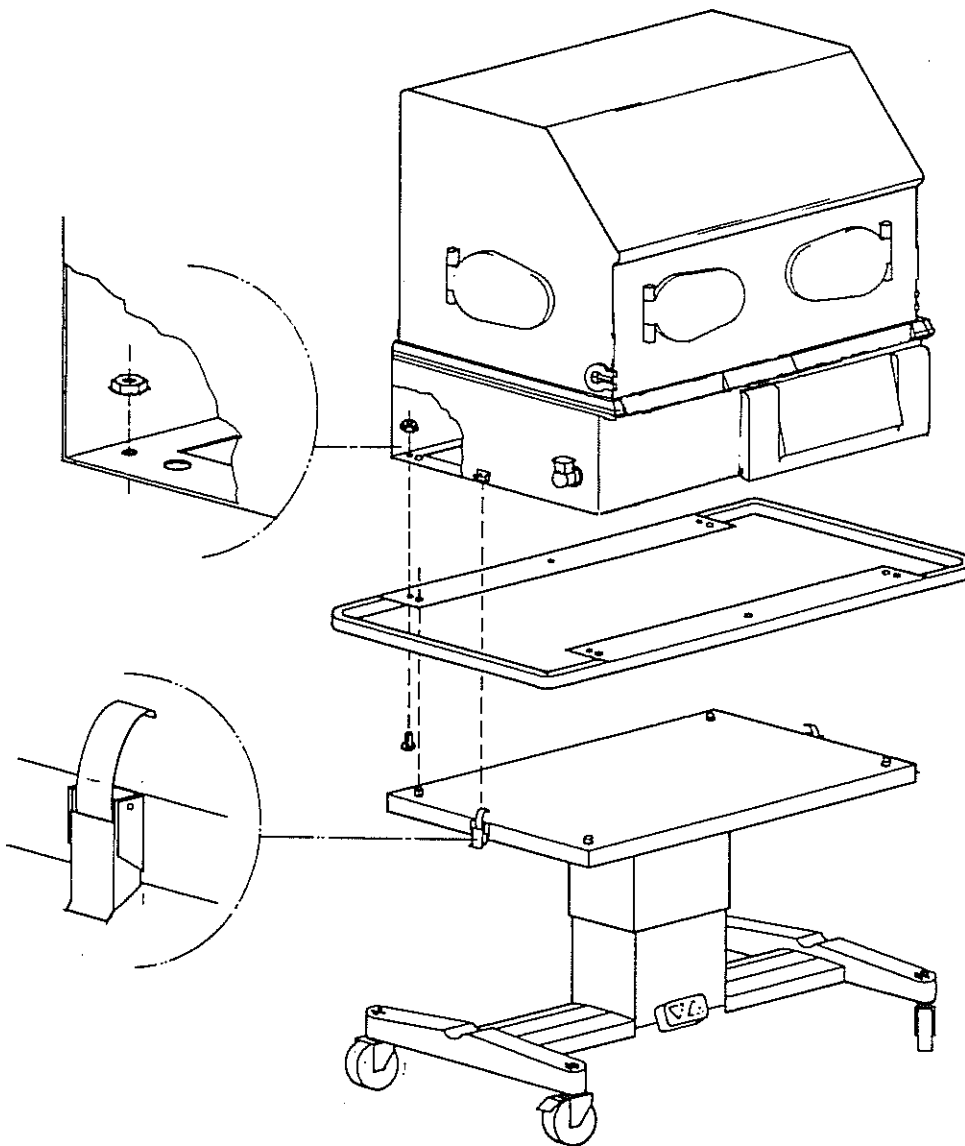

FIGURE 2.2 ASSEMBLY, INCUBATOR MOUNTED ON VHA CABINET STAND
- A. **REMOVE THE CONTROLLER FROM THE INCUBATOR.** Attach the Guard Rail to the underside of the Base Assembly using the 6 bolts and Keps nuts supplied (see Figure 2.2).
- B. **PLACE THE GUARD RAIL AND BASE ASSEMBLY ON THE VHA (VERTICAL HEIGHT ADJUSTABLE) STAND** as shown in Figure 2.2.